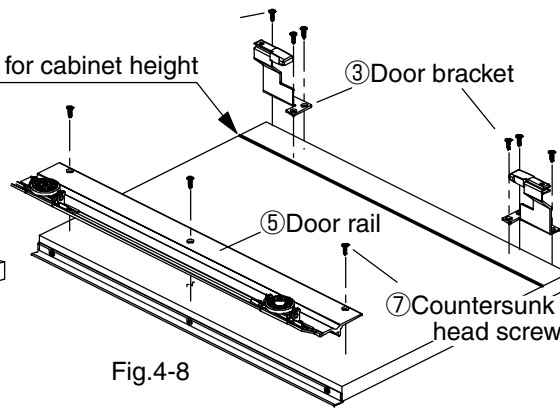

Fig.4-8
- [6.] Fasten door sliding profile ⑤ on the back of each door using screws ⑦ (Fig. 4-8, Fig. 4-9)
- [7.] Fasten door brackets ③ at the position marked in [3] and [4], by using screws ⑦ (Fig. 4-8).
*** Important: Be careful not to bend door brackets ③ during installation of the door fittings.**